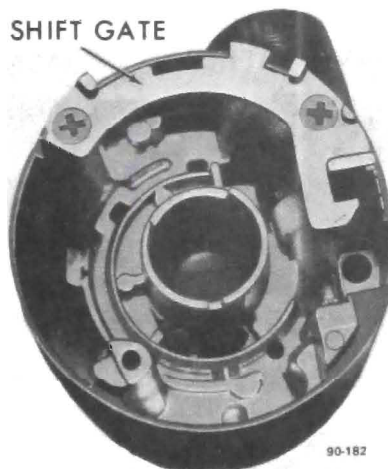

Figure 90-116 Removing Shift Gate
19. Remove the shift gate. See Figure 90-116.